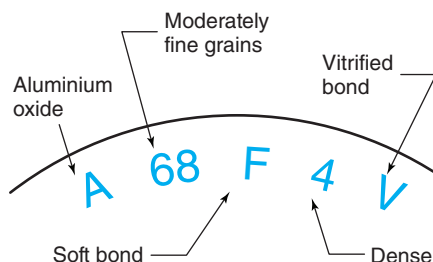

Figure 13-86 Problem 1.
1. A 5 aluminum oxide abrasive; 46 5 medium grit at 46 screen; H 5 medium hard bond; 7 5 average air spaces and bond posts; V 5 vitrified. See Fig. 13-86. Probably used for general-purpose grinding of alloy steels of moderate hardness. For semi- and finish grinding.